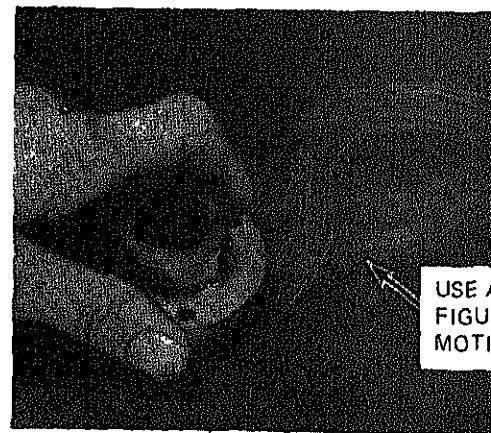

FIGURE 9-89.
e. Examine bearings and body for scratches and pitting (see figure 9-88). Use fine sand paper on a surface plate to dress out any slight imperfections of bearings (see figure 9-89). Do not attempt to remove deep scratches or gouges. Check bearing bores for concentricity